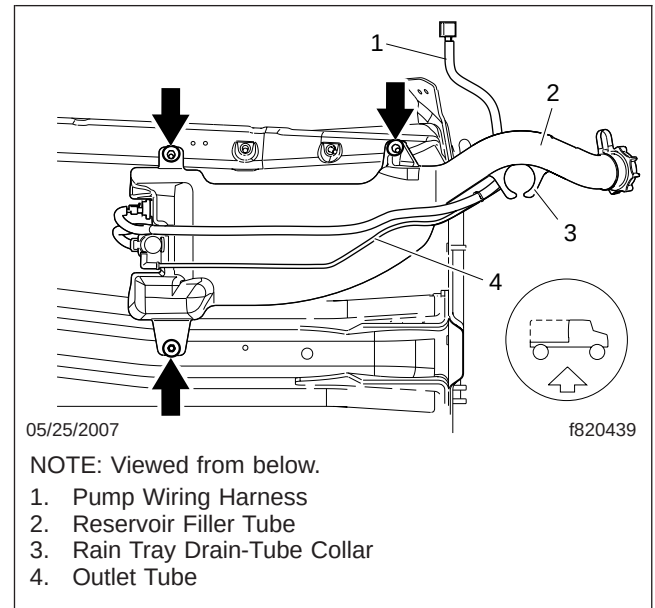

Fig. 2, Washer Reservoir Fasteners (arrows)
11. Remove the M8 nuts that attach the reservoir tank to the cab underbody; see **Fig. 2**. Remove the tank.
14. Install the reservoir tank on the cab underbody with the M8 nuts; see **Fig. 2**. Tighten the nuts 11 lbf·ft (15 N·m).